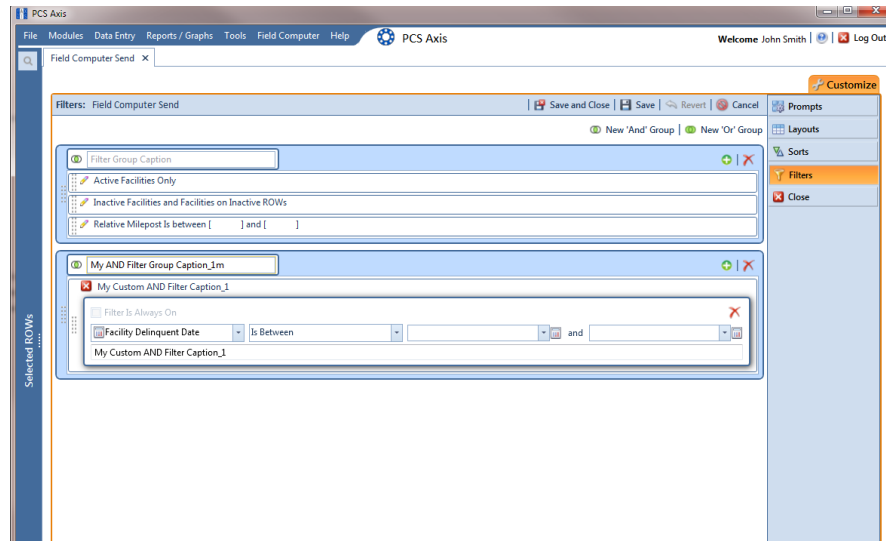

Figure 13-42. New 'And' Filter Group
- 4 Click the **Customize** tab , then the **Filters** button  to open the *Filters* page (Figure 13-42, page 640).
- 5 Click  **New 'And' Group** to open the filter properties group box (Figure 13-42).